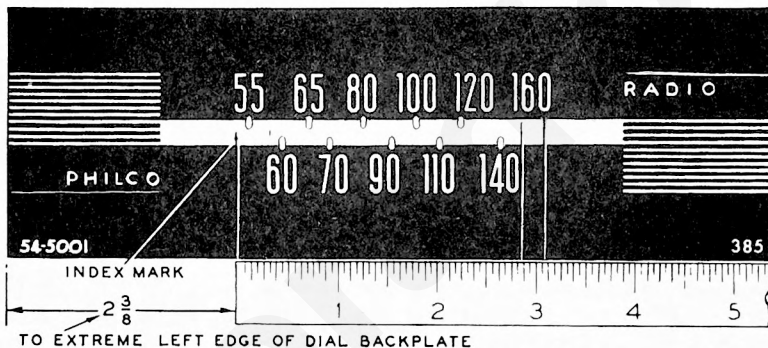

Figure 1. Dial-Backplate Calibration Measurements
The method of measuring for these points is illustrated in figure 1. Hold a ruler against the backplate, with the start of the ruler at the reference line shown, and mark pencil dots at the proper points for the required frequency settings. When the ruler is correctly placed, the index mark is approximately
2-3/8 inches from the reference point indicated in figure 1.
**DIAL** — Calibration and pointer-index measurements are shown in figure 1. With tuning condenser fully meshed, set pointer to index mark.